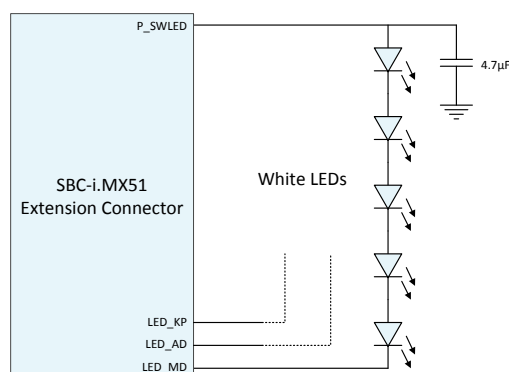

Figure 4-3: LED connection circuit
2) The P\_SWLED voltage drives the LEDs connected to the LED-driver pins. The output voltage will be set automatically by the MC13892. For LED connectivity see Figure 4-3. Please also refer to the MC13892 errata sheet available from the Freescale website.